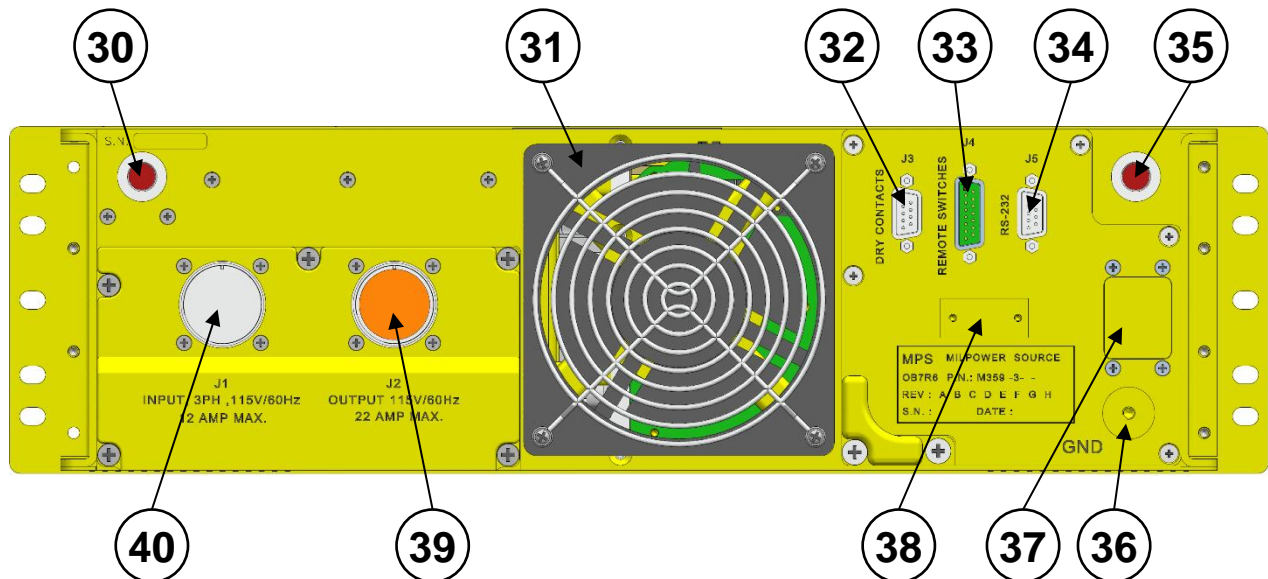

Figure 5: Rear Panel
4. Rear Panel Description (Figure 5)